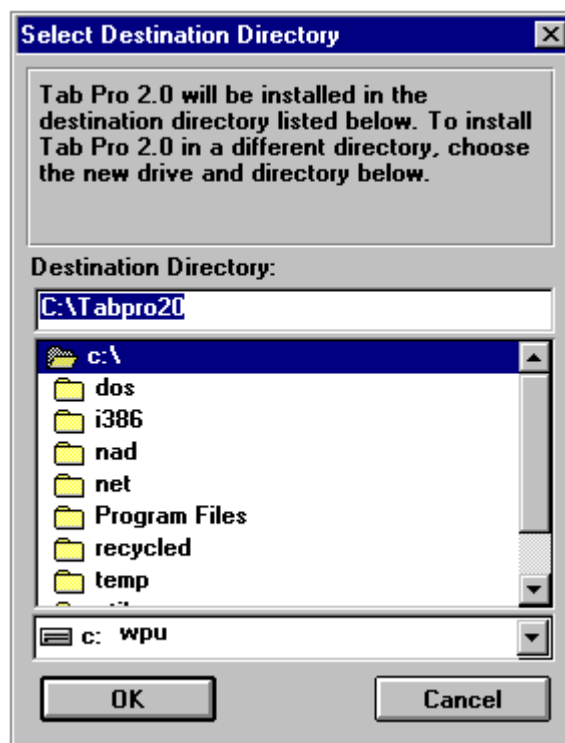

FIGURE 35. TabPro Destination Directory Dialog
8.68 On the 'Select Destination Directory' press the 'OK' button to continue. See Figure 35.